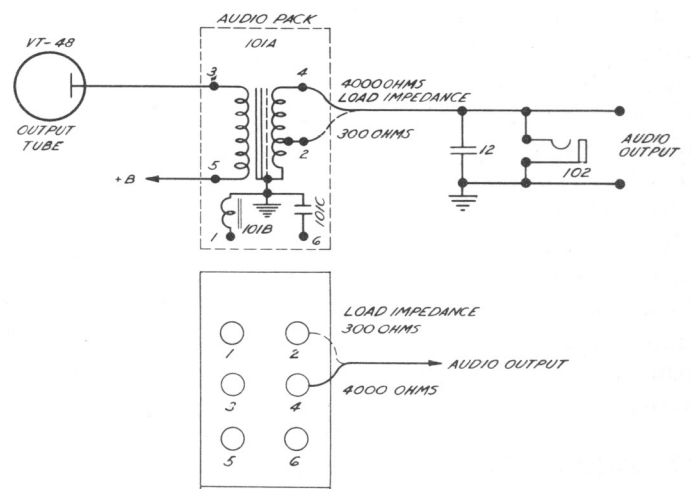

Figure 12 — Details of Output Transformer Connections
c. OUTPUT IMPEDANCE. — This receiver is furnished with an audio output transformer which permits operation into a wide range of load impedance (see fig. 12). With the receiver as normally supplied, the audio output connection is made to terminal #4 of the audio pack (transformer 101A). This is the proper connection for load impedances from 1000 to 10,000 ohms with optimum operation at a load impedance of 4000 ohms. To operate the receiver with a load impedance of 300 ohms the audio output lead should be removed from terminal #4 and soldered to terminal #2 on the audio pack. This is the proper connection for load impedances from 75 to 800 ohms.